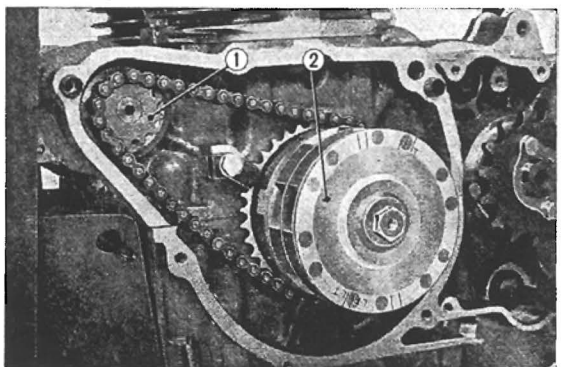

Fig. 3.90 Remove the left crankcase cover
- Remove the left side crankcase cover. (Fig. 3.90)